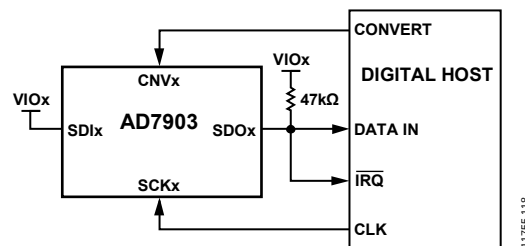
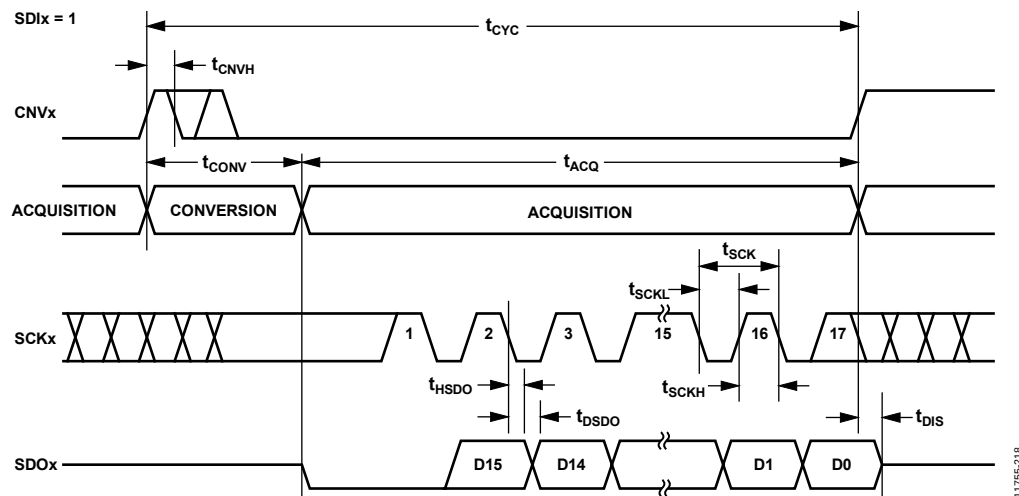
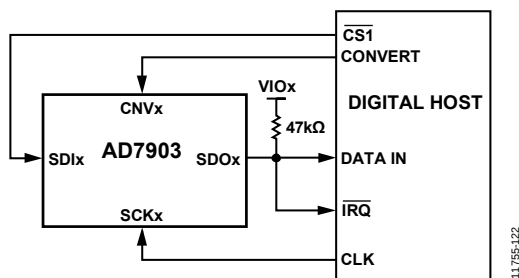
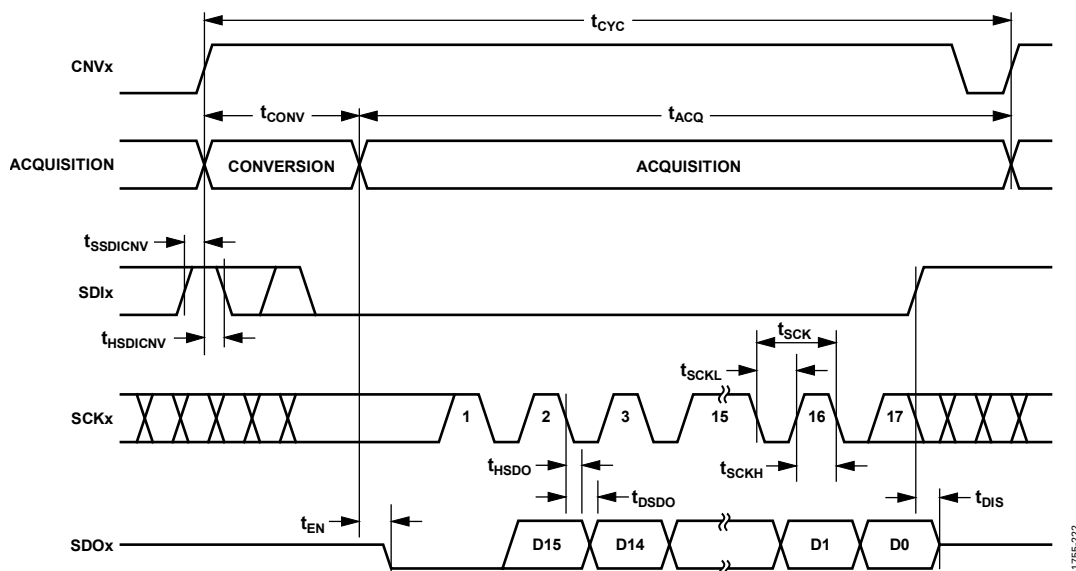

Figure 41. $\overline{\text{CS}}$ Mode, 3-Wire Interface with Busy Indicator Connection Diagram (SDIx High)
Figure 42. $\overline{\text{CS}}$ Mode, 3-Wire Interface with Busy Indicator Serial Interface Timing (SDIx High)
Figure 45. $\overline{CS}$ Mode, 4-Wire Interface with Busy Indicator Connection Diagram
Figure 46. $\overline{CS}$ Mode, 4-Wire Interface with Busy Indicator Serial Interface Timing
- In $\overline{CS}$ mode if CNVx or SDIx is low when the ADC conversion ends (see Figure 42 and Figure 46).
The connection diagram is shown in Figure 41, and the corresponding timing is shown in Figure 42.
The connection diagram is shown in Figure 45, and the corresponding timing is given in Figure 46.